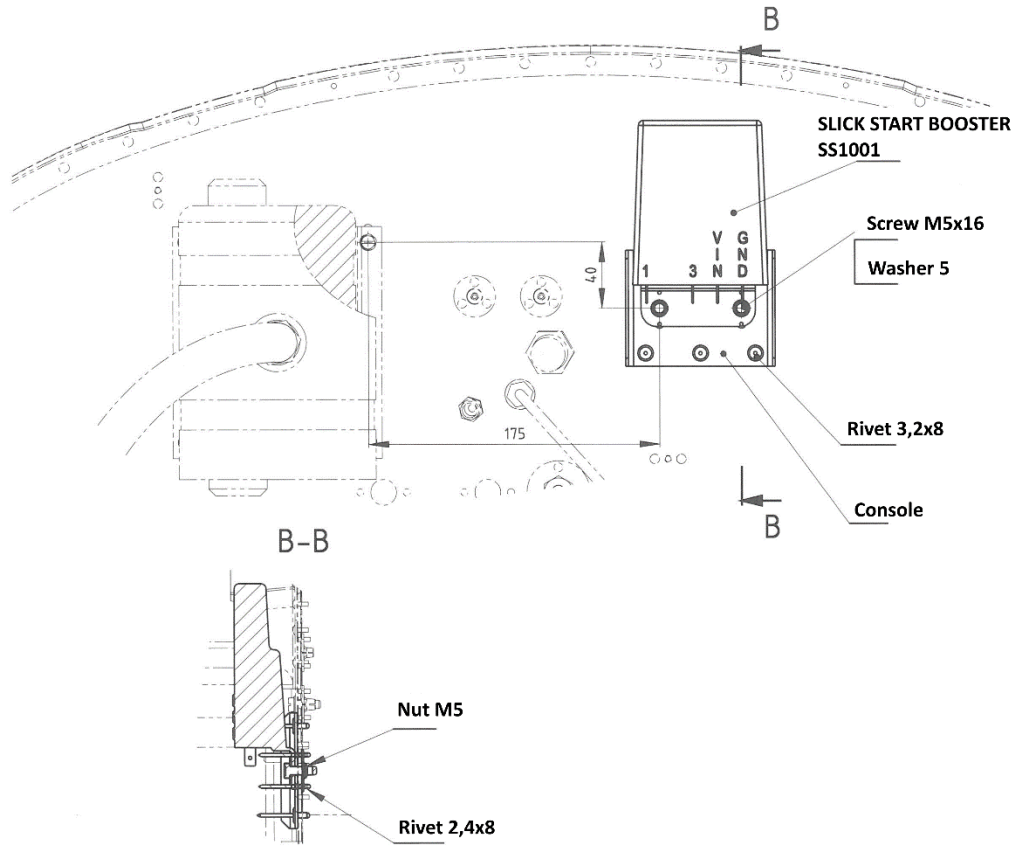

Fig. No. 1
2. According to Fig. No 1 mount the SLICK START BOOSTER on the firewall on the supplied console Drwg. No. L242.6920-01.01.